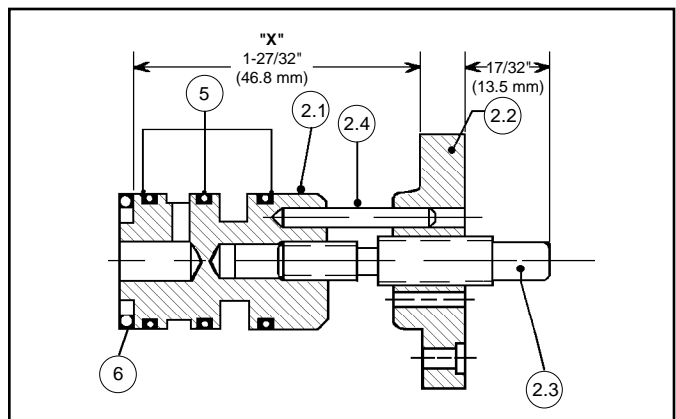

Figure 9: Sensor Sub-Assembly Dimensions
3. Place a marking on the temperature dial (10) at the point where the "tip" of the knob (4) is located. Remove knob (4) by loosening set screw (4.1) and lifting.
4. Remove temperature dial (10) by removing screw (9) and lifting.
5. Remove four sensor end plate screws (8).
6. Grasp sensor end plate (2.2) and withdraw vertically from housing (1). Lay sensor sub-assembly (see Figure 9) on work surface; take care to not lose sensor pin (2.4) in handling.
7. Hand-grasp housing (1) and rotate CCW (viewed from knob end) to removal. Keep track of the number of revolutions to removal in table of Step 2, previous. Take care not to invert and drop the sensor plate subassembly (15) from the housing (1) internals in handling.
8. Remove thermal bulb (12) from vise, taking care not to invert and drop Invar rod (13) (also extension post (14)) of the thermal bulb (12) and cause end damage to rod (13) (also post (14)). Examine bulb (12) interior for signs of leakage; recommend complete 764T replacement if leakage is discovered.
9. Holding the housing (1) in a vise, remove the sensor plate O-ring (6) using an awl-type tool, and discard. **DO NOT DAMAGE METAL SURFACES!**
10. Remove the housing (1) from the vise, invert housing (1) with hand covering knob-end to allow sensor plate subassembly (15) to drop/slide out of the housing (1); it may be necessary to push adapter (15.2) to remove the sensor plate subassembly (15).
11. Pick up sensor subassembly (2). Allow sensor pin (2.4) to be removed. Rotate sensor (2.1) CCW (viewed from sensor end) to removal. Keep track of the number of rotations to remove the sensor (2.1) from the adjusting screw (2.3) in the following table:
15. Reverse the rotation of the needle valve (3) and fully remove. Remove needle valve O-ring (7).
17. Install new O-rings on the needle valve (7), and three on sensor (5).
18. Place thermal bulb (12) back into a vise. Insert Invar rod (13) (also extension post (14)) into thermal bulb (12).
19. Re-assemble sensor subassembly (2) end plate (2.2), adjusting screw (2.3), and sensor (2.1) per the recorded number of revolutions of Step 11, this sub-section; this will give "preliminary" adjustment. See Figure 9 for "final" adjustment dimensions of the sensor subassembly (2). Rotate sensor (2.1) as
A. Improper sensor sub-assembly setting.	A. Remove sensor sub-assembly. Check dimension to those indicated in Figure 9. If dimension is correct, and high setting cannot be reached, decrease dim "X" by rotating sensor end plate 1/2 revolution CW; reverse for lower setting.